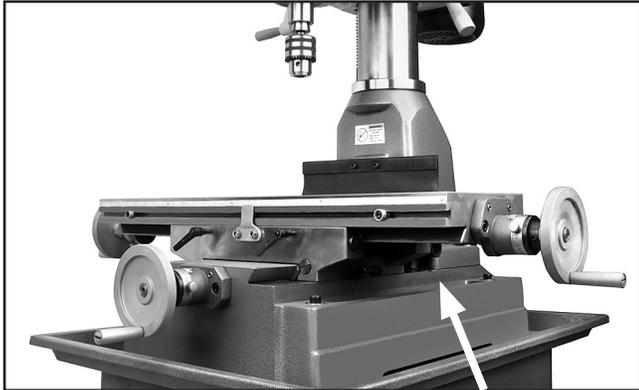

Figure 56. Longitudinal leadscrew location.
- Use mineral spirits and a brush to clean as much of the oil and debris as possible off of the longitudinal leadscrew shown in **Figure 56**. Allow the leadscrew to dry.